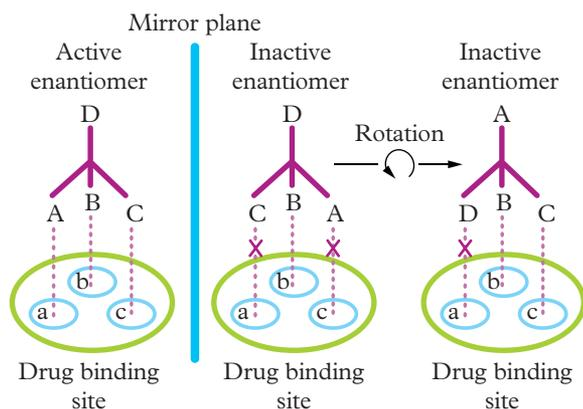

FIGURE 1 Two enantiomers of a drug
- ★★★ 28 **Analyse** the diagram of two enantiomeric forms of a drug in Figure 1 by considering their ability to interact with the drug binding site. Components a and b of the drug binding site are hydrophobic and component c is hydrophilic.